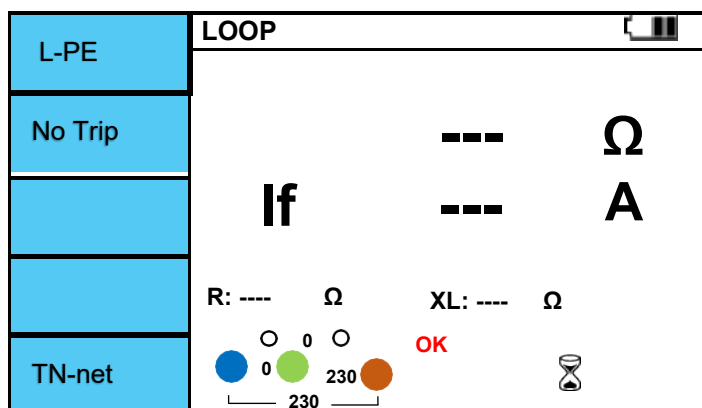

Figure 6.5.2 Loop / No Trip screen.
- III. If there is no problem with the test lead connection, the terminal status is displayed as shown in Figure 6.5.2. "OK" is displayed in the right window.